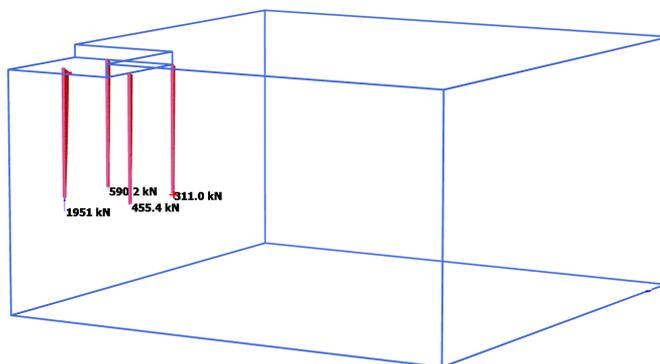

Figure 1.24 Resulting axial forces (N) in the embedded beams
- Select the option *N* in the *Forces* menu to view the axial loads in the embedded beams. The plot is shown in Figure 1.24.